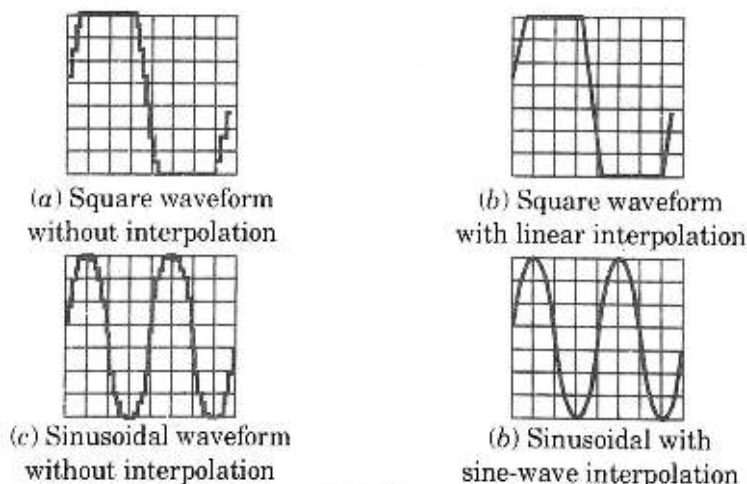

Fig. 4.8.1.
3. This is most suitable for pulse waveform displays. Sine wave interpolation introduces a sinusoidal function between the sample levels, for use with sinusoidal waveforms. In Fig. 4.8.1 shows both types of interpolation.